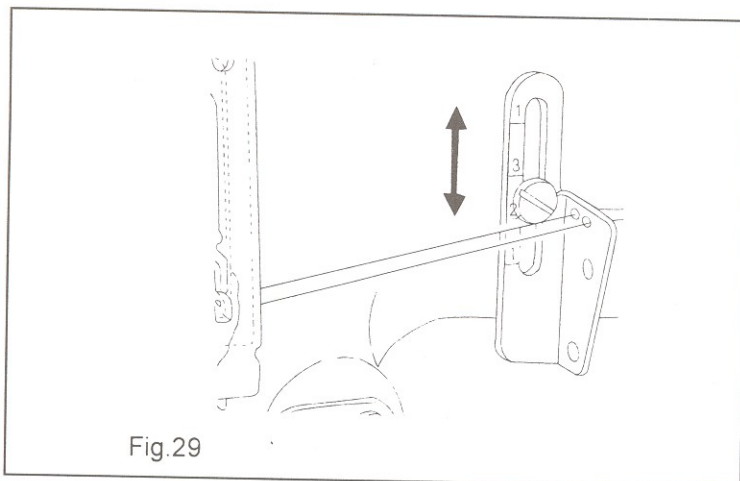

Fig.29
25. Frame thread eyelet:(Fig 29)
The following locations are generally regarded as criteria (refer to Fig29)